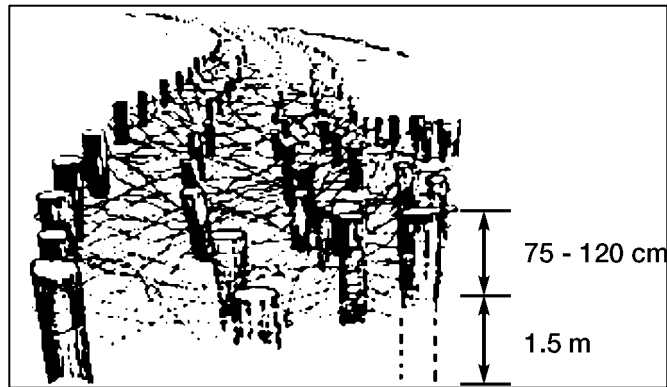

Figure 052-195-3066-11. Log Post Obstacle
(2) Three logs 25 centimeters in diameter or one log 45 centimeters in diameter are used.
(3) Logs are staked firmly in place. Ensure stakes are no more than 1.5 meters apart.
(4) The log poles are lashed to the stakes with wire.
(5) The securing stakes are buried a minimum of 60 centimeters in the ground with 60 centimeters remaining above ground.
d. Direct the construction of a log post obstacle (figure 052-195-3066-11). Ensure—